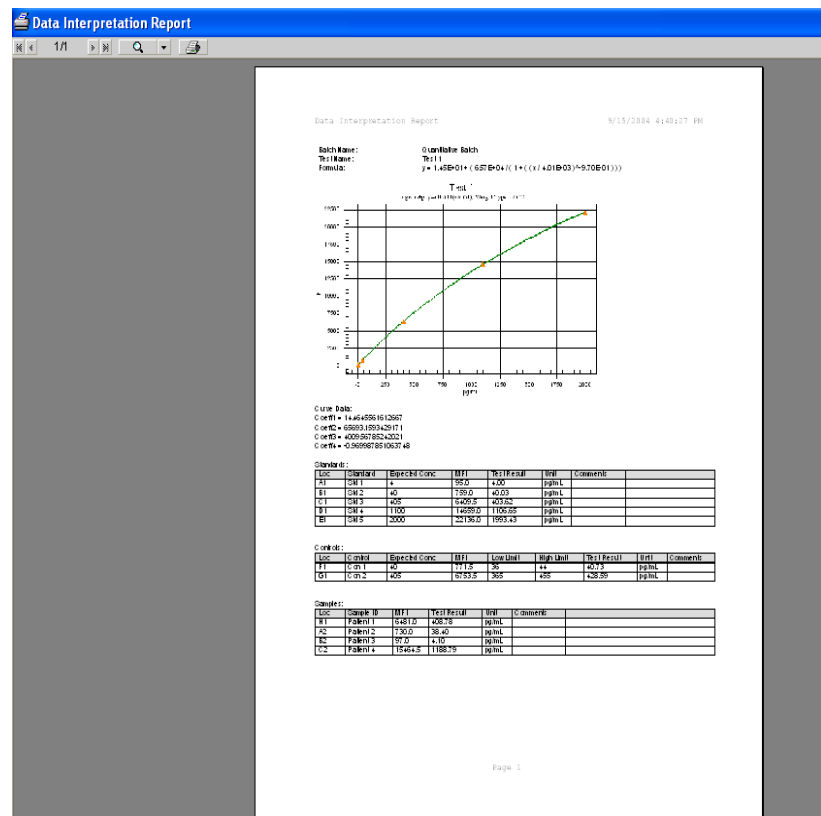

Figure 5-75 Data Interpretation Report (Print Preview)
3. In the **Analysis** dialog box, click **Print Report**. The Data Interpretation Report displays a print preview. See Figure 5-75.